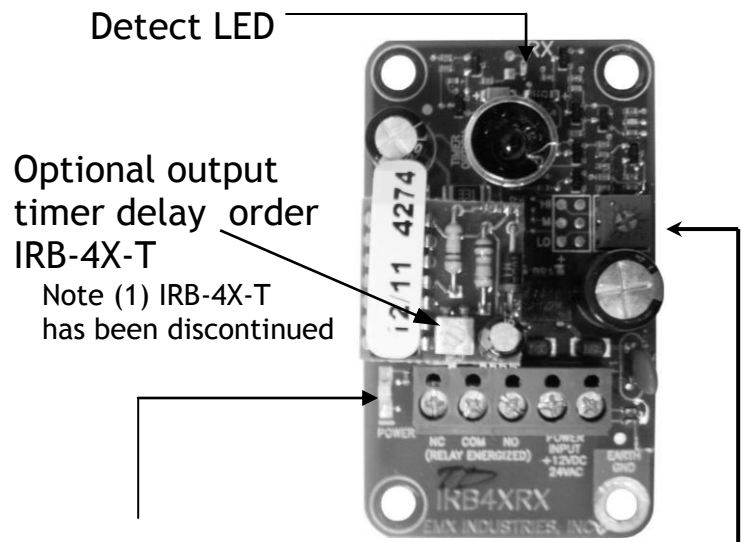

Figure 2
Continuously adjustable single turn potentiometer figure 2
(1)IRB-4X-T has a 0 – 15 second relay timer to extend the relay output time figure 2
IRB-4X Receiver connections (figure 2)